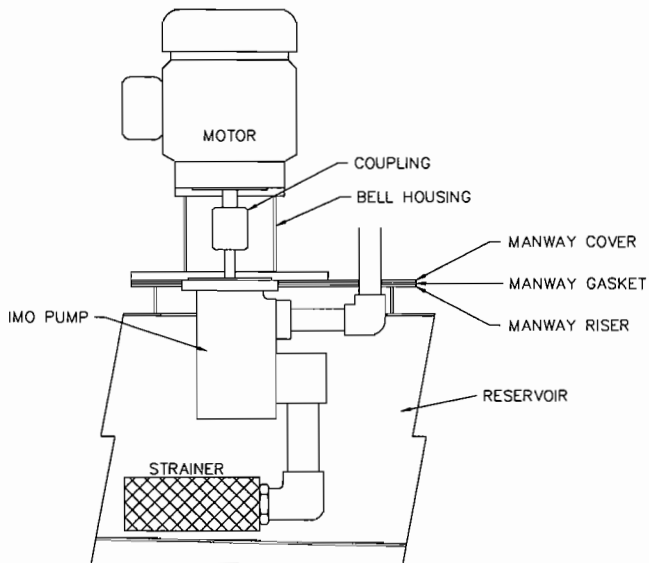

Figure 4. Vertical Pump Mounting Assembly.
- Pumps that are mounted vertically in the tank should be mounted so the coupling is above the tank top (Figure 4). Mounting of the coupling below the tank top can result in aeration of the oil due to aerodynamic effects of the coupling.
- The recommended pump installation is vertical on a bell housing with C face motor per Figure 4. The bell housing ensures a permanent alignment. The vertical pump reduces skid size (real estate is valuable) and the installation is far cleaner and the most economical.